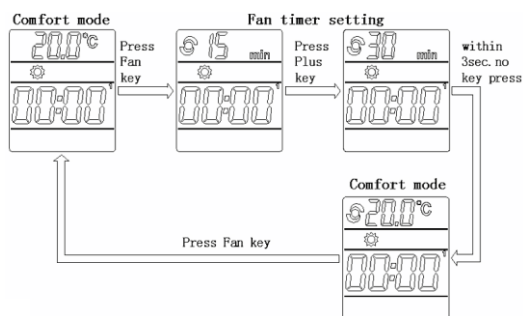

fig 4
- When the current mode is set on "Pilot-Wire", "Comfort", "Night", "Antifreeze" or on "Clock", by pressing the "Fan" button once, the Fan symbol will be displayed and the Fan Timer 15min symbol will flash. Set then the fan timer 15min / 30min / 45min / 60min by using the "Plus" or "Minus" buttons. 3 seconds without pressing any buttons and the current setting will be automatically confirmed – also, temperature and "fan" symbol will be displayed. By pressing the "Fan" button again, the symbol will disappear and the function will be deactivated (Fig. 4)